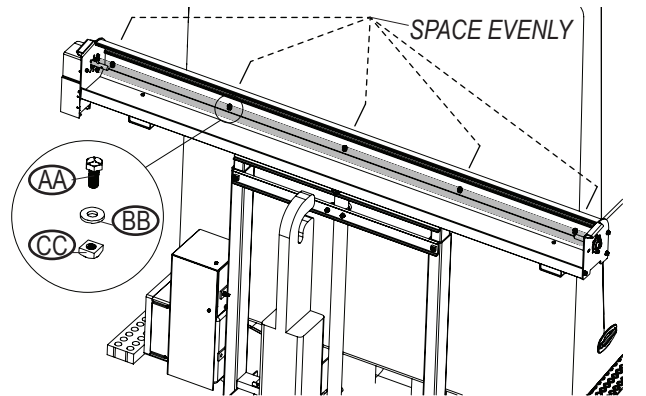

FIG. 108
- On the tarp axle, loosen the pre-installed hardware and space the **bolts (AA)**, **washers (BB)** and **nuts (CC)** evenly along on the axle slot. See Figure 108.